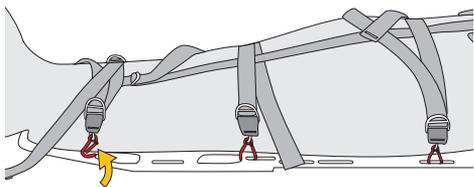

Fig.12
d) fasten the black straps (pelvis and legs) by hooking the connectors to the slots on the board and slightly tighten them using the buckles (figs. 12 and 13)